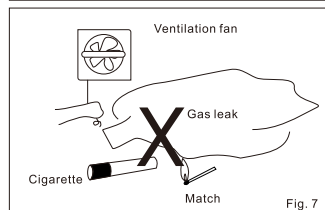

Fig. 7
- If a gas leak is found, close the main gas valve, open up all windows, and call your dealer. Do refrain from turning an electric switch on or off, lighting a match, or using a lighter. (Fig. 7)
- If a gas leak is found, close the main gas valve, open up all windows, and call your dealer. Do refrain from turning an electric switch on or off, lighting a match, or using a lighter.(Fig. 7)